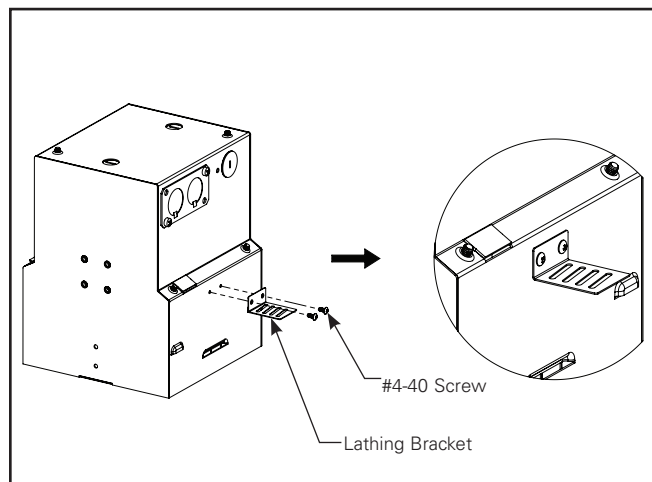

Figure 1.1.
1. Take the Mud-in kit assembly from the box & assemble the Lathing brackets to housing using #4-40 screws on both sides of Housing. (Figure 1.1)